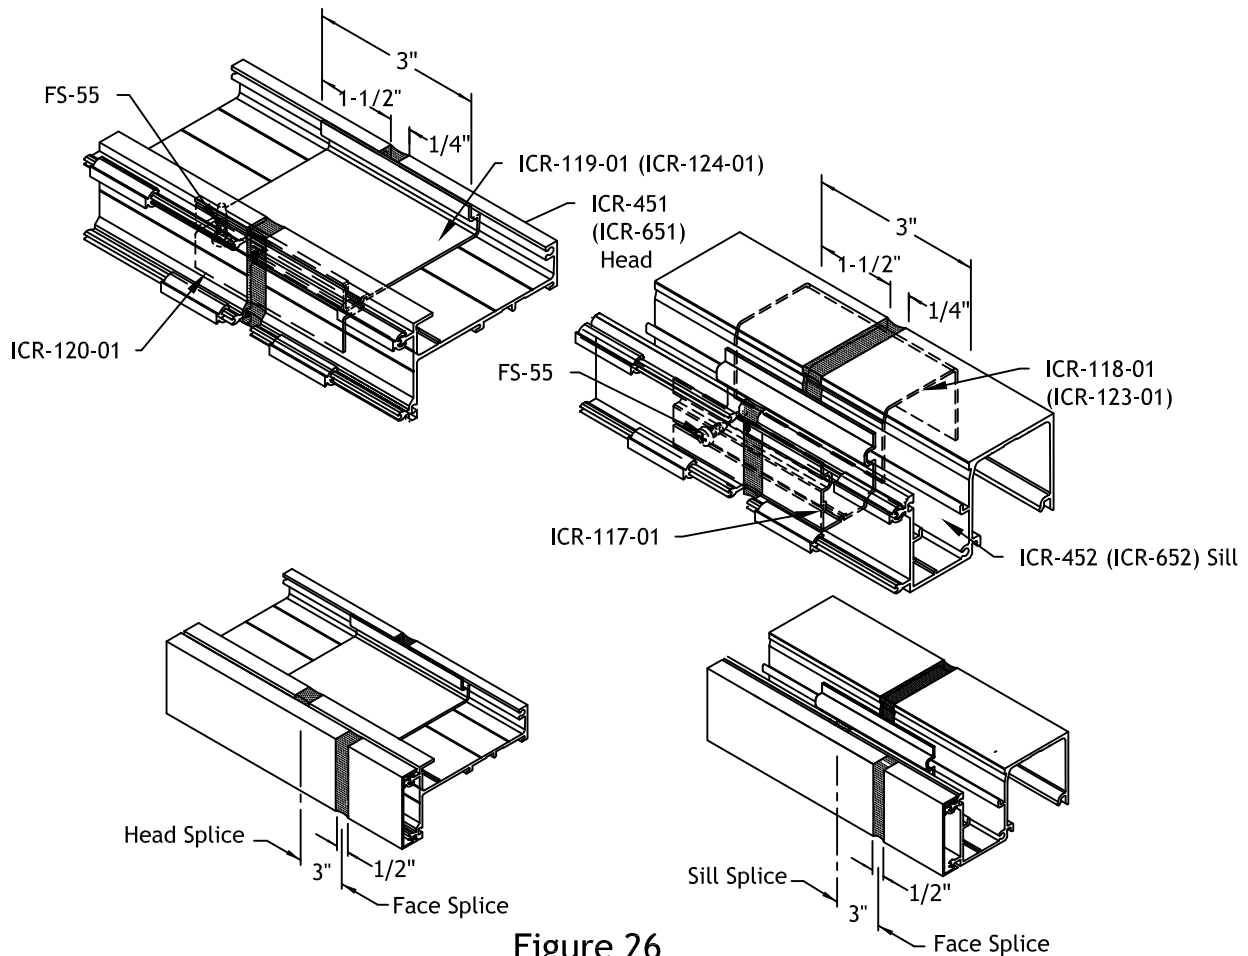

Figure 26
- 7.1 Prior to setting frames in place, apply a non-hardening, non-skinning sealant to both sides of the splice joint at the head and sill members. Attach splices to one side of frame with FS-55 (#10 x 1/2" Phillips Pan Head) as shown in **FIGURE 26**.
- 7.2 Place splice sleeves in head and sill of first frame section, slide the next frame section over the splice sleeves to achieve a 1/4" joint. **SEE FIGURE 26**